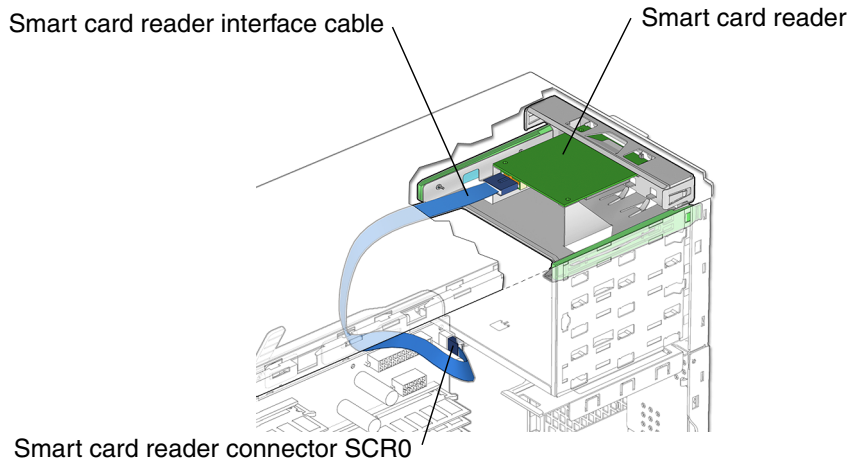

FIGURE 12-19 Connecting the Smart Card Reader Cable
6. Connect the smart card reader interface cable to the smart card reader (FIGURE 12-19).